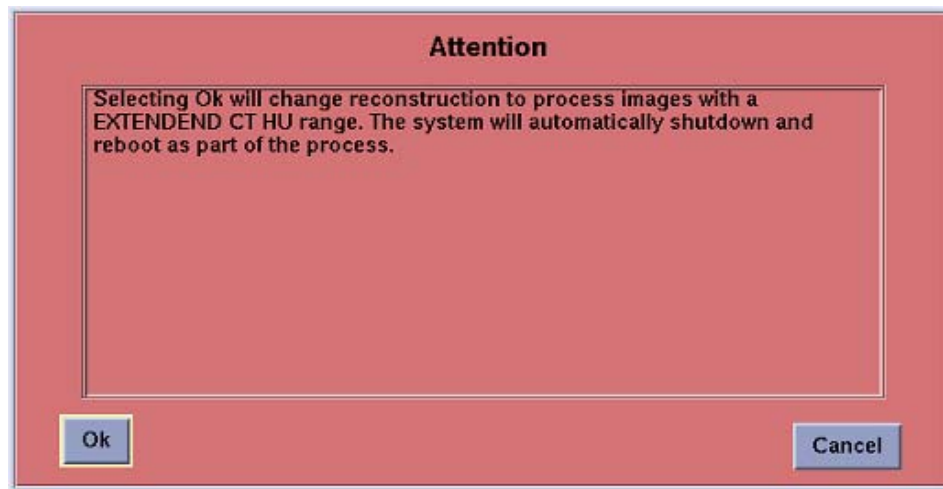

Figure 1-25 System Reboot Notice Screen
- 2.) A pop-up box appears, indicating that a system reboot is required to enable the change of modes from the current to mode selected in the Tool Bar. See Figure 1-25. Click OK to reboot.